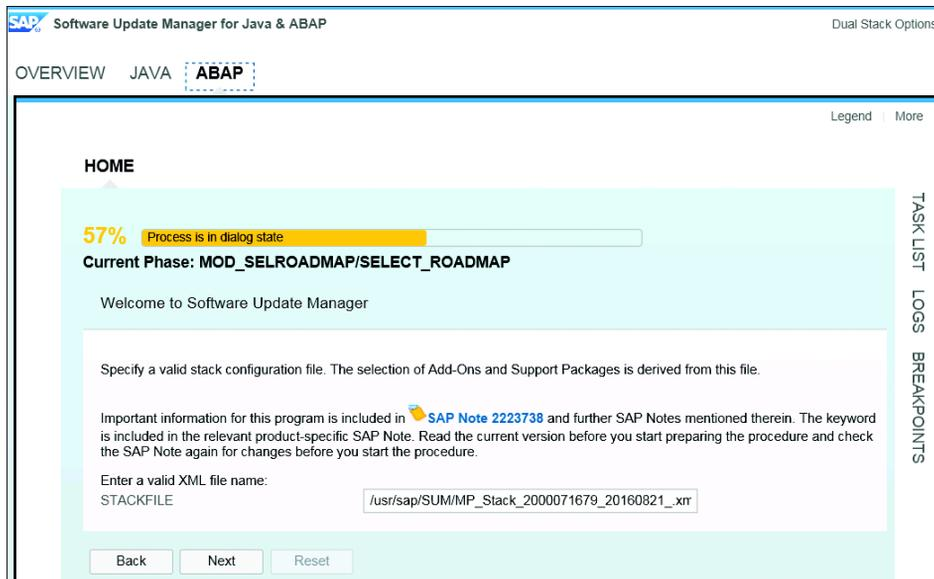

Figure 41 Enter the Correct Stack XML File
6. Specify the valid stack XML file for the ABAP side. This is the same XML that was used on the JAVA side (see Figure 41).